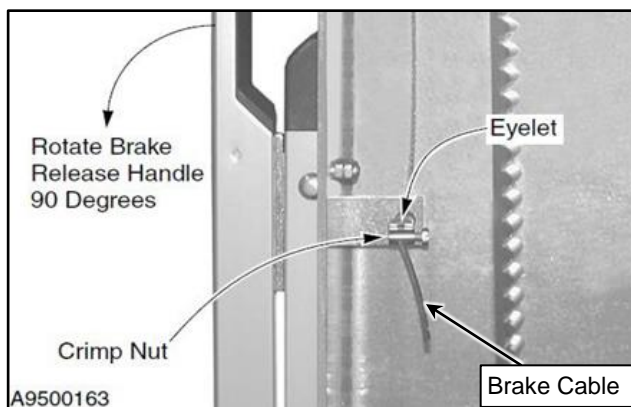

Figure 59
- Locate the end of the cable passing through the brake release handle. (See Figure 59)